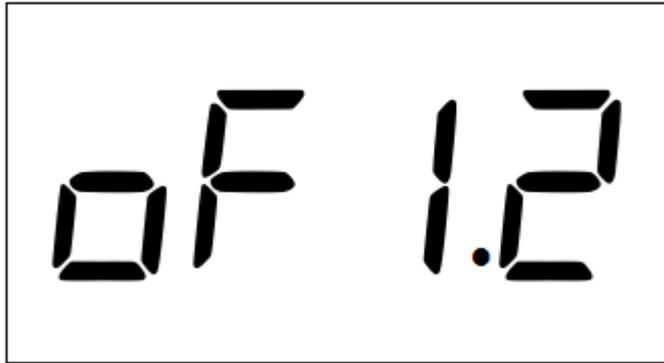

Figure 5 :- In screen 3 the display shows the set OFF TIME in pulse mode.
- 6) While setting the OFF TIME the OFF TIME LED will turned ON and the display will show the set OFF TIME in screen 3 as shown in the figure 5.